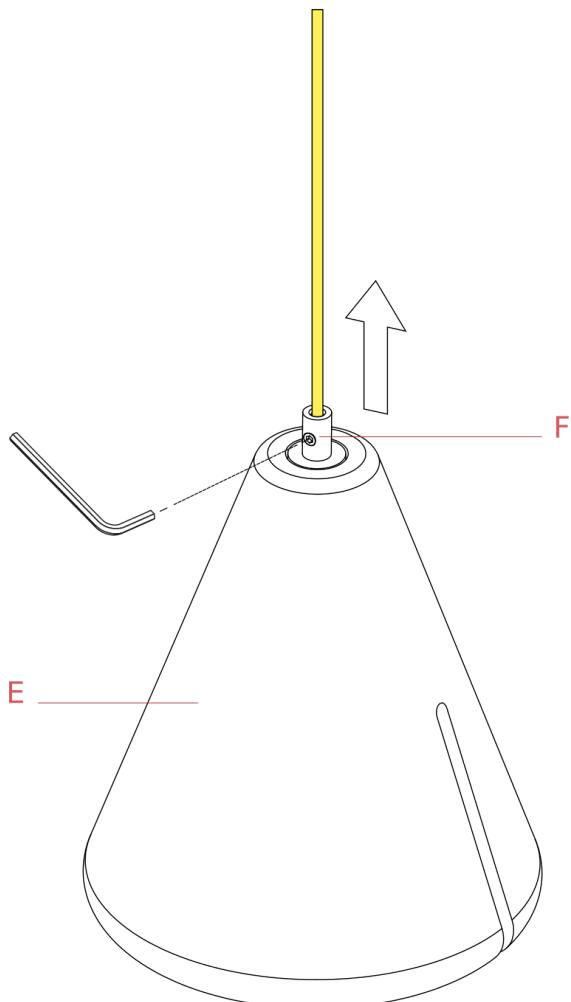

Fig.2
Hook the steel wire end (C) to the open ring (A). (Fig.2 page 2)